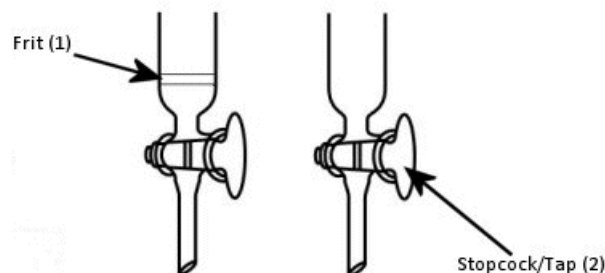

Figure 2. Fritted (left) and non-fritted (right) columns.
The columns (Fig. 2, **right**) we use are non-fritted and will need to be plugged with either glass wool or cotton wool to prevent loss of the stationary phase out the bottom. Positioning the cotton or glass wool can be awkward at first.
2. Clamp the column securely and close the tap or stopcock (Fig. 2, **2**).